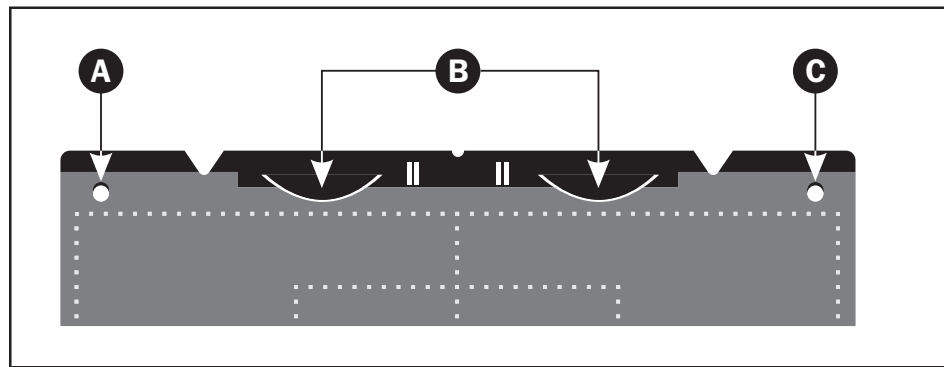

Figure 5: Reflective holder, top
- For the reflective holder, note the four metal pegs (the top two are shown as **A** and **C** in Figure 5 below); make sure that the clear plastic sheet is pressed all the way down over all four pegs. Note also the two curved tabs at the top of the holder (**B** in the figure below); the clear sheet must slip under each of these tabs, as shown.